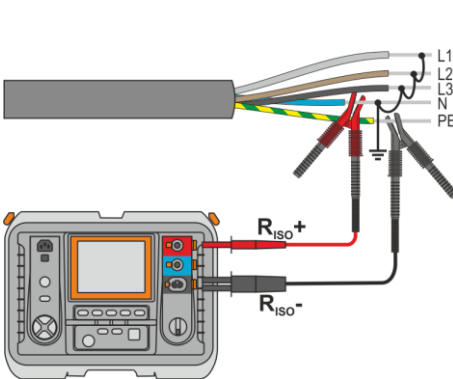

Fig. 4.1. Measurement of an unshielded cable
- In case of power cables measure the insulation resistance between each conductor and other conductors shorted and grounded (**Fig. 4.1**, **Fig. 4.2**). In shielded cables, the shield is also shorted.